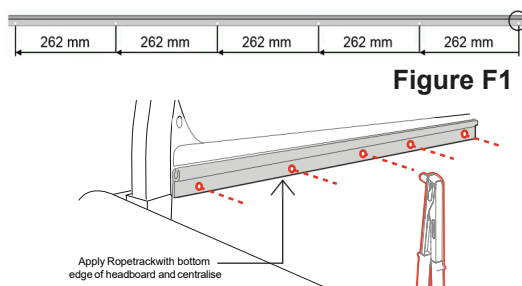

Figure F2
• Sit the flat side of the assembled rope track on the tailgate side of the headboard with the 'C' channel facing upward and align the bottom edge of the rope track with the bottom edge of the headboard then centralise the rope track. **Refer Figure F2**.